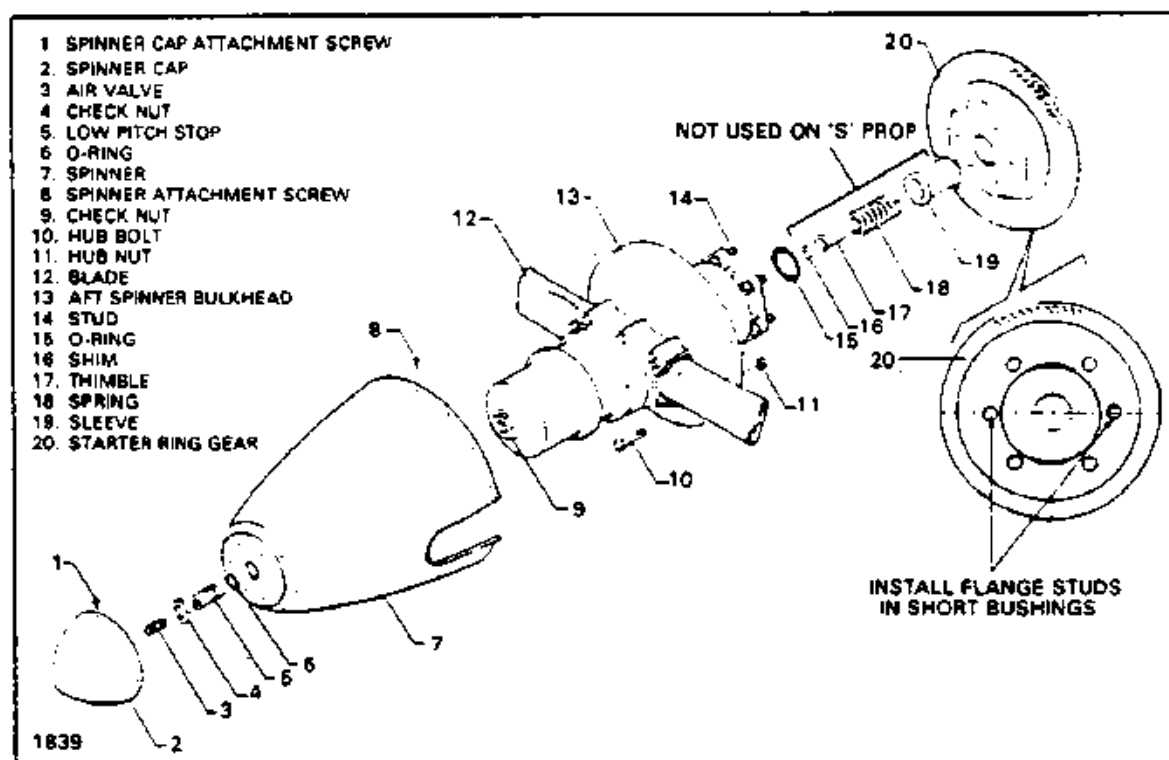

Figure 8-2. Standard Propeller Installation
8-9. REMOVAL OF PROPELLER. (Refer to Figure 8-2.) This includes all propellers, standard and with spring backup kit installed, identified by a letter "S" in the dash number.
8-11. INSTALLATION OF PROPELLER. (Refer to Figure 8-2.)
- Install spinner bulkhead (13) on propeller hub and secure with locknuts. Torque bolts to specifications given in Table VIII-1.
- Position the prop flange and starter ring gear so the two short bushings are horizontal. (Refer to Figure 8-2.)
- Lubricate and install "O" ring (15) in prop hub.
- Install sleeve (19), spring (18), thimble (17) and shim (16) in engine crankshaft on